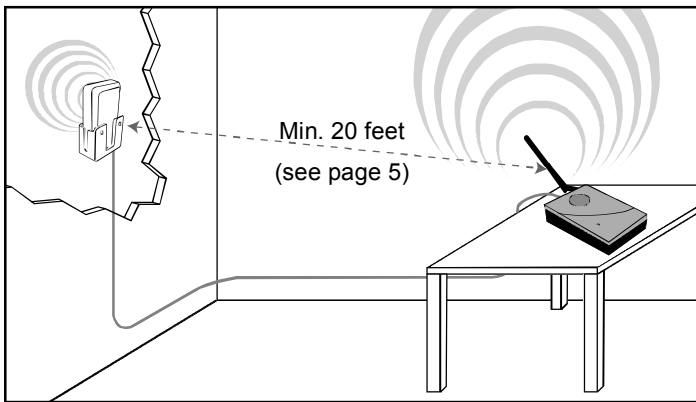

Figure 8
1. Select a location on an outside wall as high as possible and at least 20 feet away from where the amplifier will be located (see Figure 8).